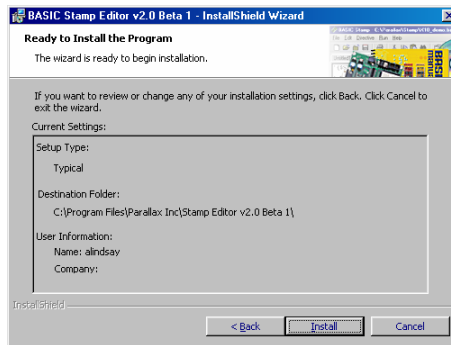

Figure 1-20
- √ When the InstallShield Wizard tells you it is “Ready to Install the Program”, click the *Install* button shown in Figure 1-20.